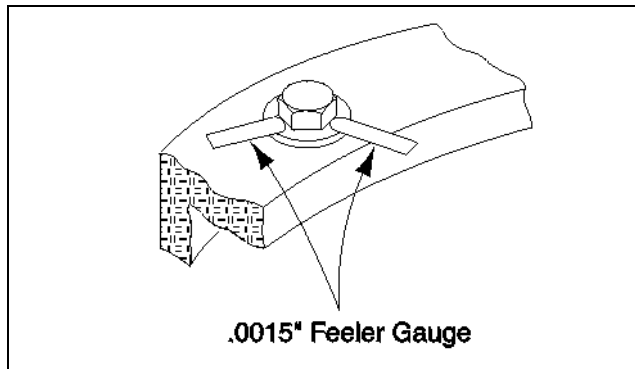

Figure 3-35. Swing Bolt Feeler Gauge Check
- b. At the positions indicated on Figure 3-35, try to insert a 0.0015" feeler gauge between the bolt and hardened washer at the arrow indicated position.
- d. At the position indicated on Figure 3-35., try and insert the 0.0015" feeler gauge between the bolt head and hardened washer at the arrow indicated position.